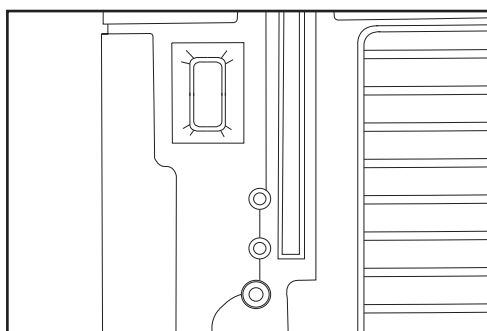

Fig 1
1. Locate the button on the back top left of the unit (see Fig 1).